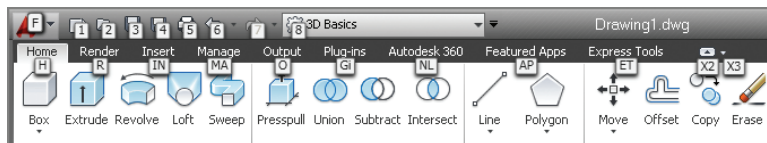

FIGURE 1.12 Keytips allow you to press keys to manipulate the ribbon with the keyboard.
8. Press and release the Alt key. Keytips appear on the ribbon (see Figure 1.12). Pressing any of the letter combinations activates that part of the GUI. Type IN, and observe that the Insert tab is selected without moving the cursor.